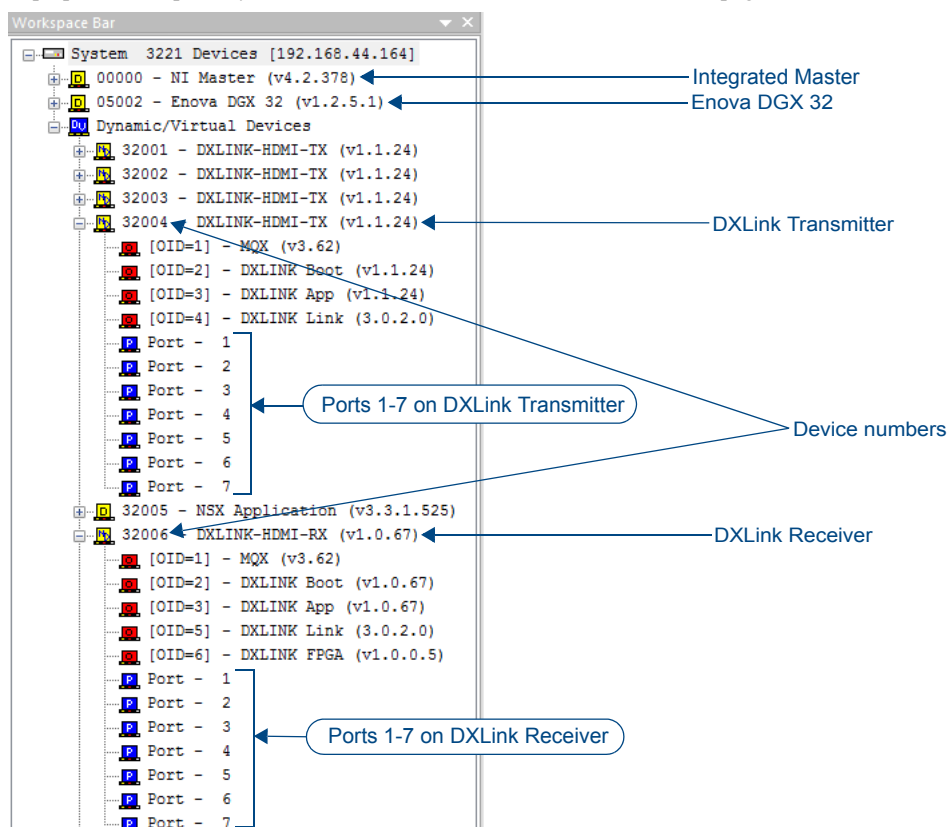

FIG. 38 NetLinX Studio – Integrated Master, Enova DGX 32, DXLink Transmitter, and DXLink Receiver
When a Transmitter and/or a Receiver are being used in conjunction with a switcher as an endpoint system, the switcher's integrated Master is used for the IRL file transfer. FIG. 38 shows a Transmitter and a Receiver bound to the integrated Master in an Enova DGX 32 in NetLinX Studio's OnLine Tree. Follow the instructions on the top of page 73 to prepare an endpoint system for IRL file transfer and the instructions on page 75 for the actual transfer.
7. Determine the Device Number assigned to the target Transmitter or Receiver when it was bound. For the Device Number location, see FIG. 38 on the previous page.
8. Right-click in the workspace and select Refresh System OnLine Tree. The module appears in the OnLine Tree. Locate the DXLink Module and the virtual device ID assigned to it (32002 in the example). For the Device Number location, see FIG. 38 on page 72.